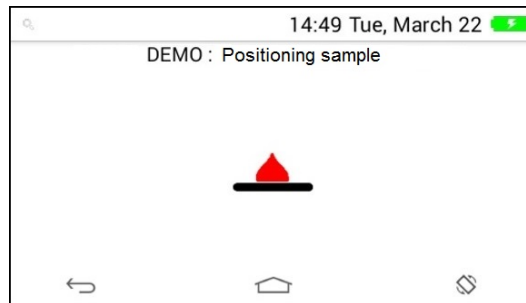

Figure 19 – Demo: Positioning sample
- d) The demo displays an animated icon that indicates the instrument is drawing the sample into the channels of the cartridge and is testing the sample. See Figure 19. At this point, the Operator would wait for the test results.